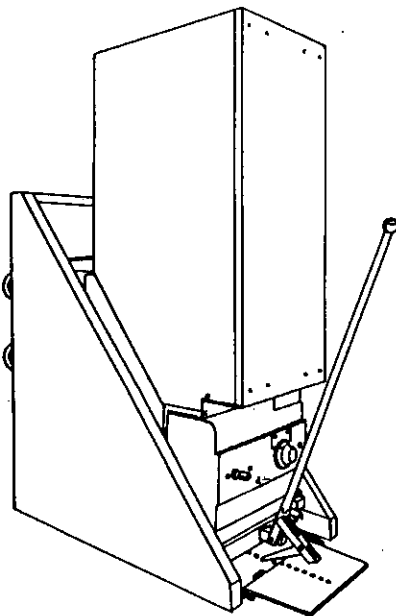

Fig. 11
- Move the breaker to isolated position, place the racking lever, as shown on fig 11 and operate it alternatively till the audible click of the lock releasing the rails is heard
- Rack the breaker in, do the same operation as above after releasing the locking device (1) by pressing the pedal (2)
- Rack the breaker out, place the lever as shown on fig 11 and do the same operations as above